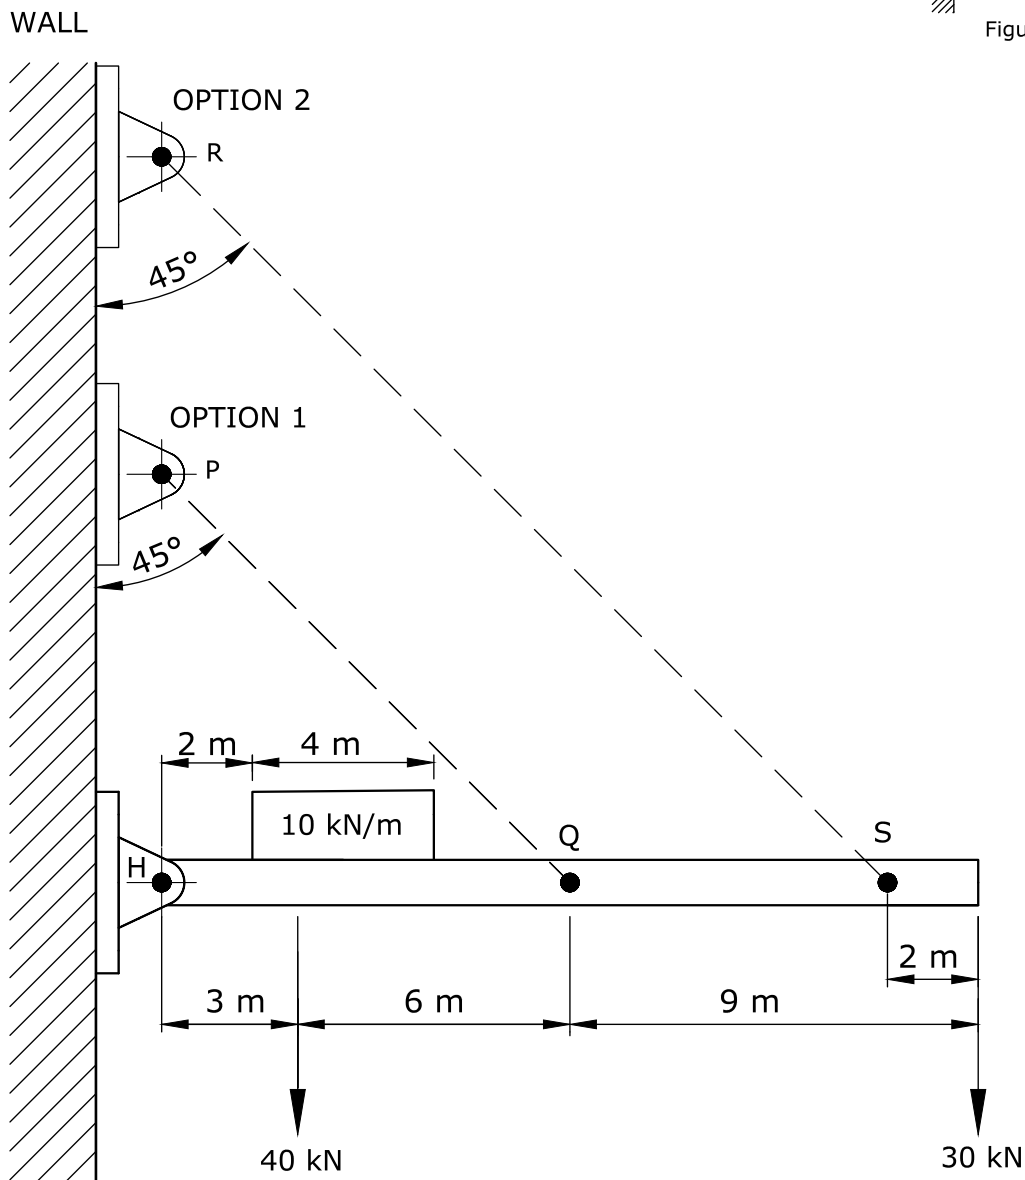

Figure 5c
The beam, which weighs 50 kN, is loaded as shown in Figure 5c.
- Using a scale of 10 mm representing 1 m, draw the space diagram (Figure 5c). (2)
- Combine the applied loads into a single force indicating also its position along the beam. Use a scale of 10 mm representing 10 kN. (4)
- the magnitude, direction and sense of the reaction at hinge H; (4)
- the magnitude of the tension in the tie rod (PQ). (3)
- the magnitude of the tension in the tie rod (RS). (3)